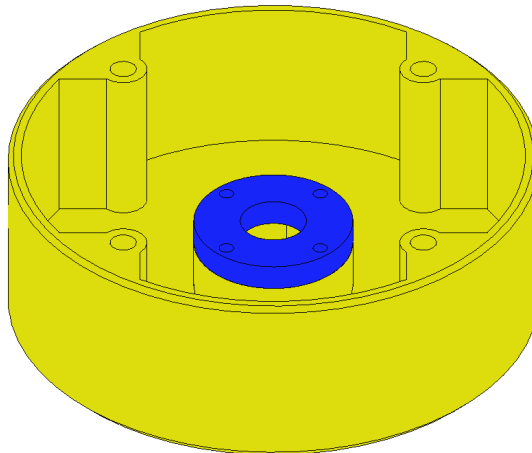

Figure 3: Assembly of *component 1* and *component 2* of a ground support element.
3. Place a M7 nut inside the slot of the *component 1*. The M7 nut slot is located in the inside of the part, at its bottom. Use *component 2* and four M2 screws to secure the nut in its place. The final assembly is shown on figure 3 with *component 1* in yellow and *component 2* in blue.